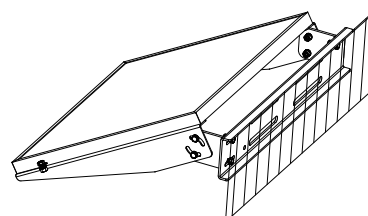

figure 2
Step3. Place PV module and mount assembly on mounting surface in the exact place to be installed. See **figure 2**. Use at least 4 fastening points. Use four M8 bolts, washers, lock washers and nuts if possible. Otherwise use wood screws, sheet metal screws, anchors, or molly bolts (not included).